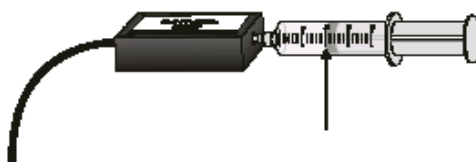

Figure 5.1: Experimental setup for Boyle's Law
The gas we use will be air, and it will be confined in a syringe connected to a Pressure Sensor (see Figure 5.1). When the volume of the syringe is changed by moving the piston, a change occurs in the pressure exerted by the confined gas. This pressure change will be monitored using a Pressure Sensor. It is assumed that temperature will be constant throughout the experiment. Pressure and volume data pairs will be collected during this experiment and then analyzed. From the data and graph, you should be able to determine what kind of mathematical relationship exists between the pressure and volume of the confined gas. Historically, this relationship was first established by Robert Boyle in 1662 and has since been known as Boyle's law.
- a. Plug the Pressure Sensor into Channel 1 of the computer interface. With the 20-mL syringe disconnected from the Pressure Sensor, move the piston of the syringe until the front edge of the inside black ring (indicated by the arrow in Figure 5.1) is positioned at the 10.0 mL mark.